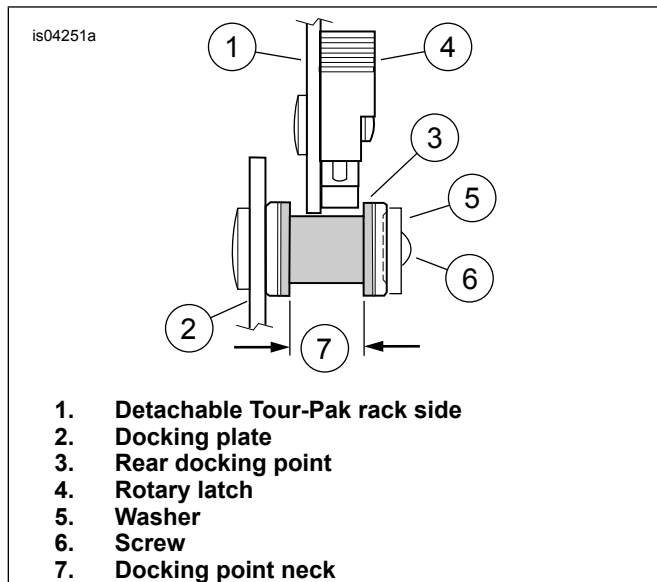
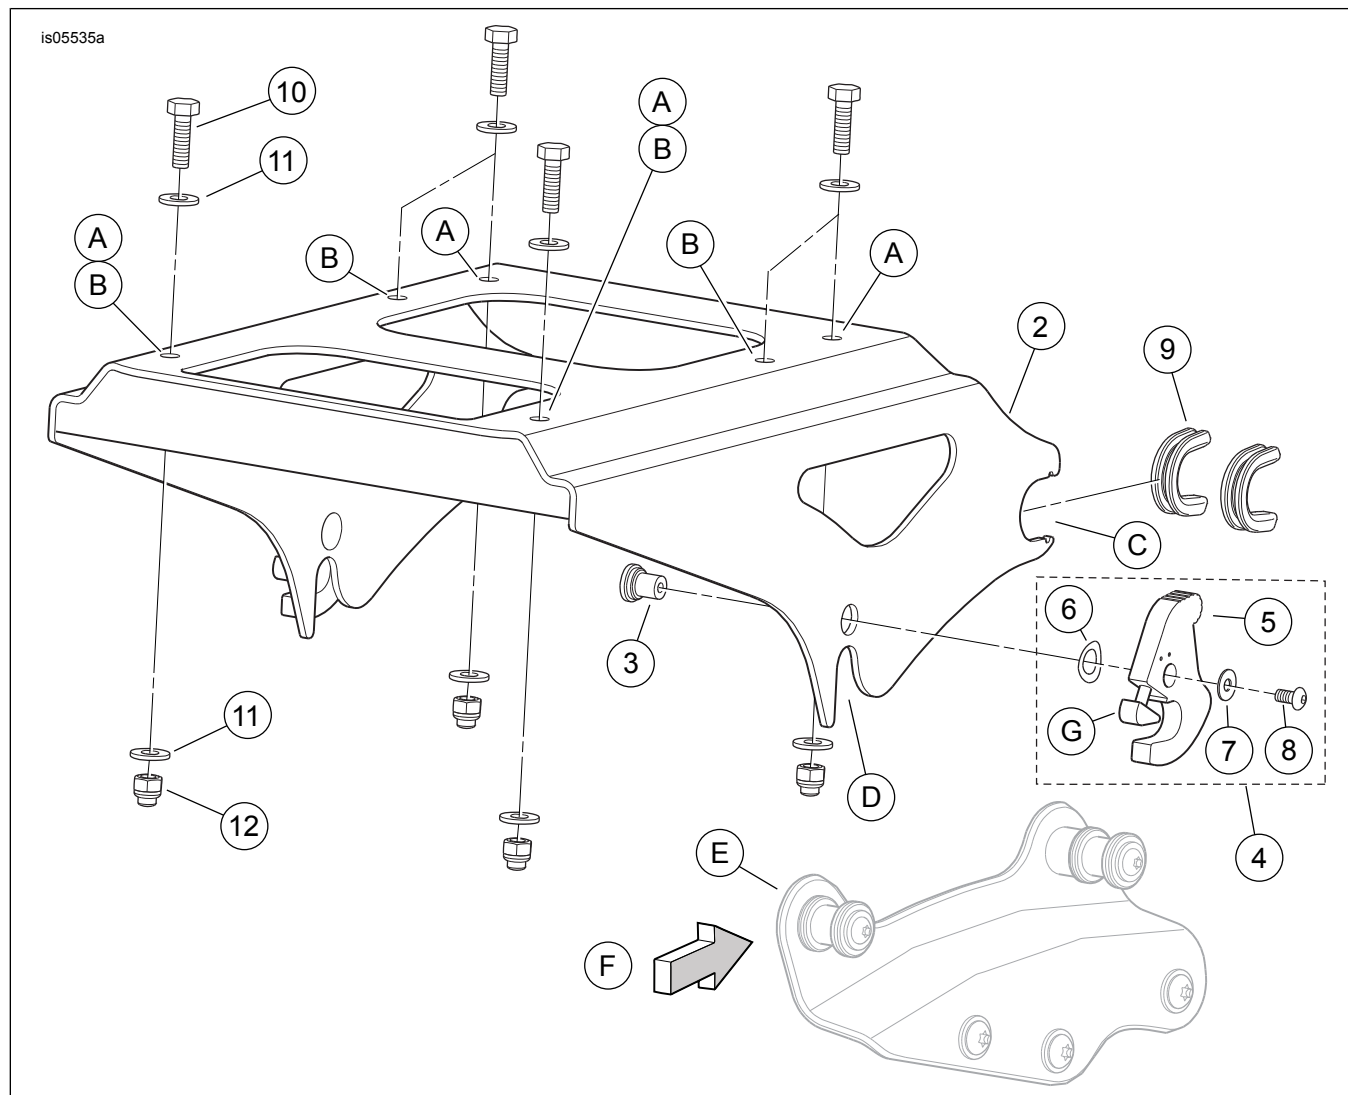

Figure 2. Proper Alignment of Latch in Rear Docking Point, View in Direction of Arrow (F)
Figure 3. Service Parts, H-D Detachables Touring Two-Up Tour-Pak Rack
See Figure 3 and Table 1.
3. See Figure 3. Obtain the hex head cap screws (10), locknuts (12) and plain washers (11) from the kit. Place a washer over the threads of each screw. Insert the screw threads down through the Tour-Pak mounting plate and floor, and into the holes in the rack.
1. See Figure 3. Stand behind the motorcycle. Place the left side and right side front Tour-Pak rack notches (C, with bushings in place) onto the front docking points on the docking plates (E). Make sure the notch bushings (9) seat fully into the front docking points.
2. See Figure 3, arrow (F) and Figure 2. Position the rotary latches (4) over the rear docking points (3). Check the rack sides (1) and latches fit into the neck (7) of the rear docking points as shown. This may require some gentle squeezing or spreading of the rack sides.
4. To remove the Tour-Pak and rack, press the release button (G) on each side and pull the latch levers back. Carefully lift the rear of the Tour-Pak rack up. Pull the rack out of the front docking points.
After installing the Tour-Pak rack, check the Tour-Pak and rack are secure. The front and rear docking points must be fully engaged. See Figure 2 for correct engagement.
F	To front of vehicle (view direction for Figure 2)